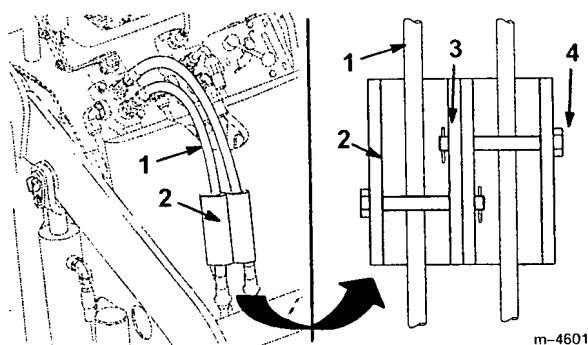

Figure 17
7. Install the cylinder locks over the hydraulic hoses and secure them with the clevis pins and cotter pins (Fig. 17).